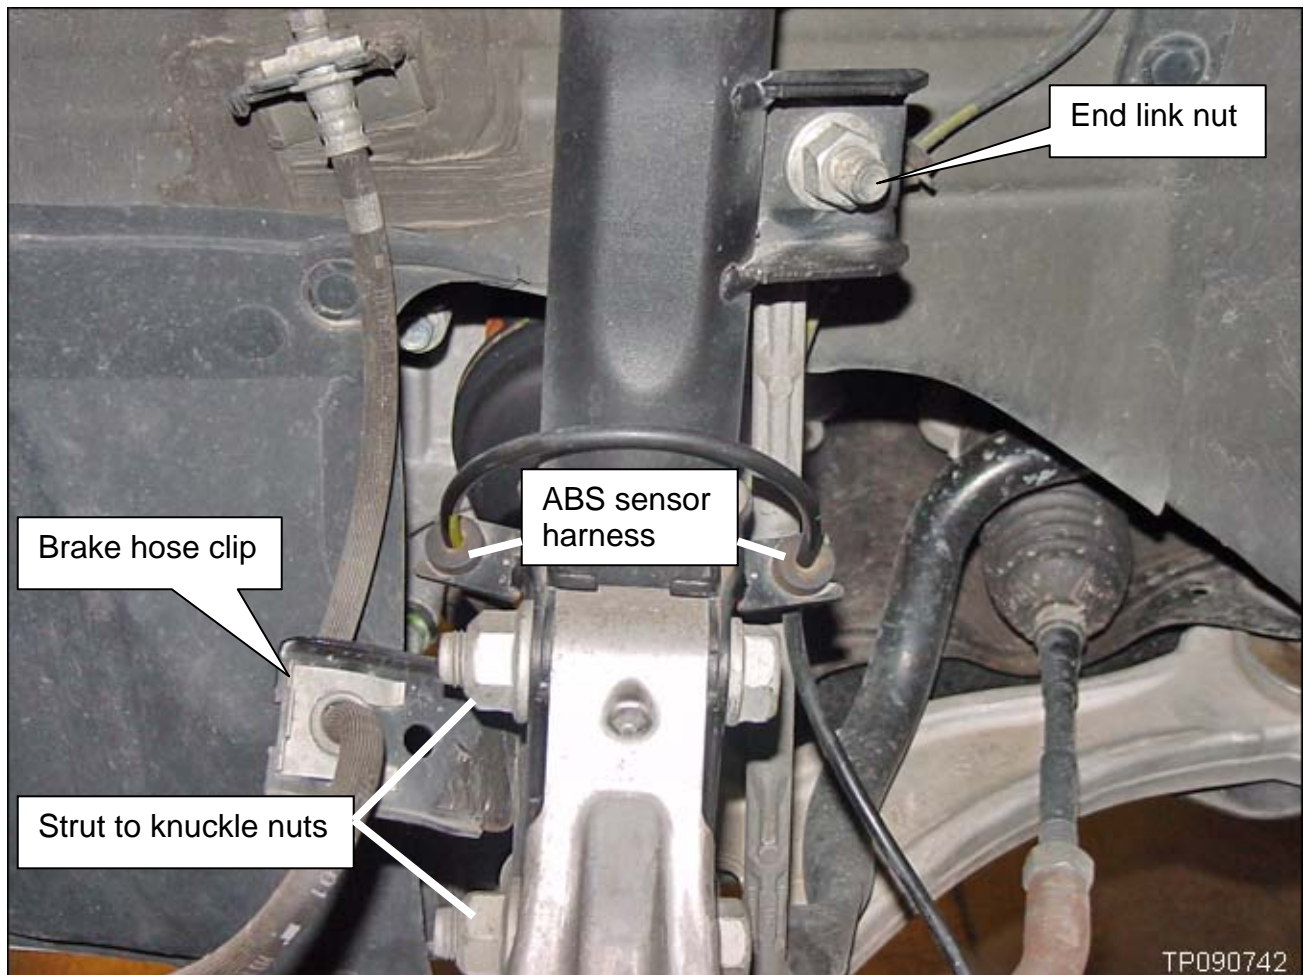

Figure 3
3. Remove the brake hose clip and brake hose from the strut bracket (see Figure 3).
4. Remove the ABS sensor harness from the strut brackets – 2 spots (see Figure 3).
5. Remove the sway bar end link nut (see Figure 3).
6. Loosen—do not remove—both strut to knuckle nuts (see Figure 3).